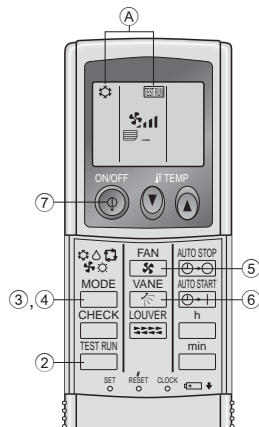

Fig. 7-5
7.2.2. Using wireless remote controller (Fig. 7-5)
① Turn on the power to the unit at least 12 hours before the test run.
② Press the button twice continuously.